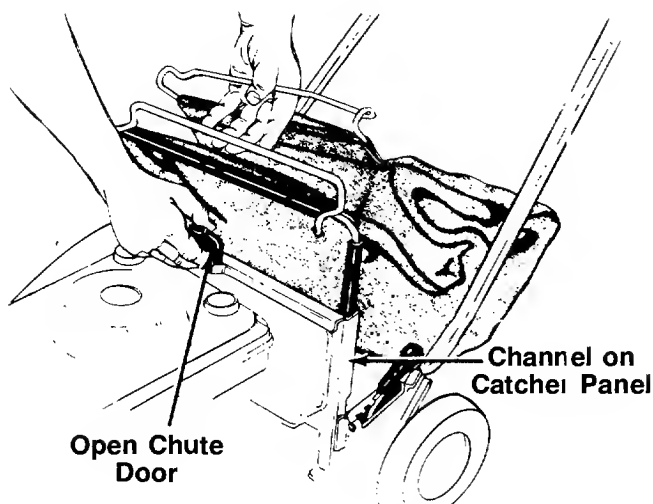

FIGURE 12.
1. Hold the chute door on the catcher panel open as shown in figure 12.